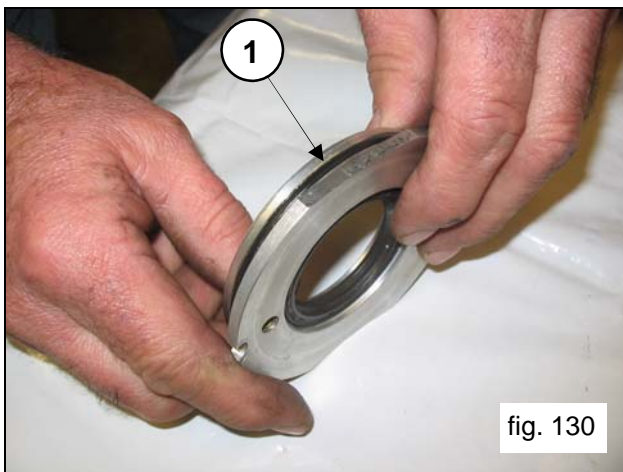
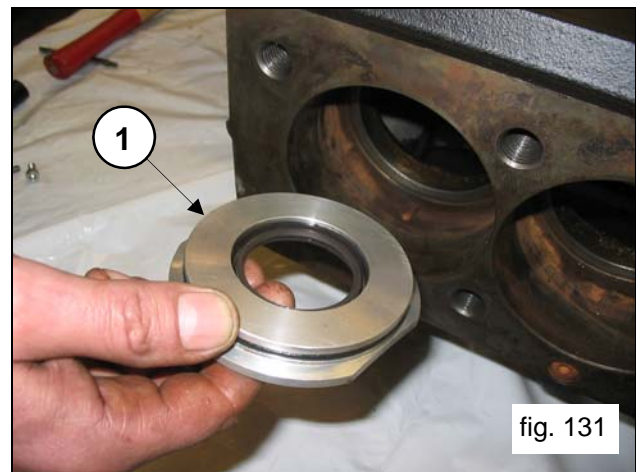

fig. 130
fig. 131
Position the O-Ring (pos. ①, fig.130) in its seat on the oil seal cover, and insert the assembled unit inside the crankcase in the apposite space (pos. ①, fig.131).